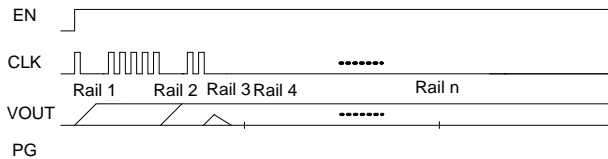

Figure 9: Soft Start during PMIC Error when CLK Pulls Down (CLK Pausing)
- If CLK_ON_ERROR_PAUSE_EN = 1, the master/slave PMIC pulls the CLK pin down if any error occurs during any power rail's soft start (see Figure 9 on page 19).